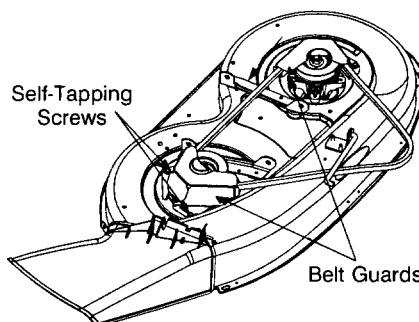

FIGURE 20 - 42-inch deck shown
- Remove the belt guards (located over each spindle pulley) by removing the self-tapping screws which secure them in place. See Figure 20.
- Remove the belt guards (located over each outer spindle pulley) by removing the self-tapping screws which secure them in place. Refer to Figure 20.